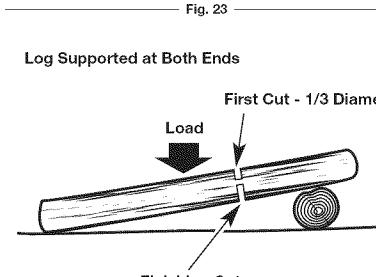

Fig. 24
2. When the log is supported on both ends (Fig. 24): First, overbuck 1/3 of the way through the log to avoid splintering. Second, underbuck to meet the first cut and avoid pinching.